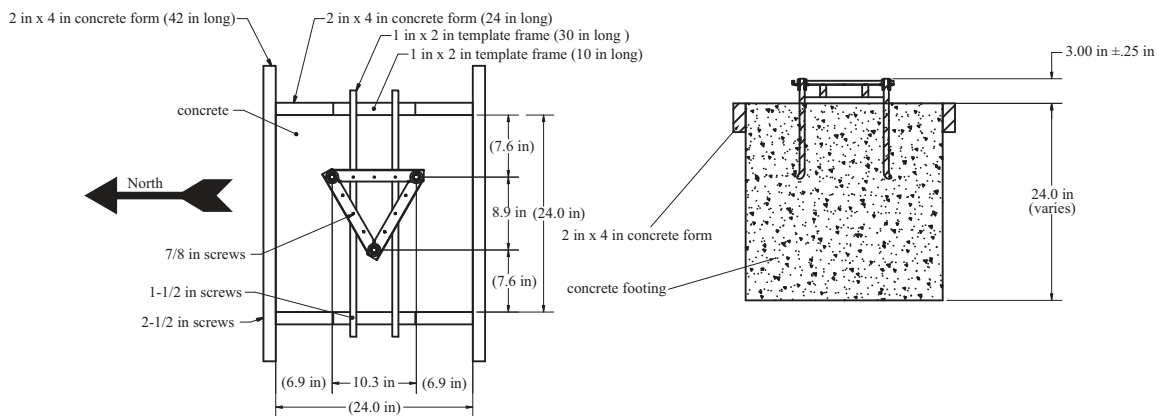

FIGURE 2-3. Positioning the j-bolt in concrete.
3. Construct a concrete form shown in FIGURE 2-3 out of 2 in x 4 in lumber 24 in square (inside dimensions). Construct the 1 in x 2 in template frame and set it aside. Center the form over the hole and drive a stake centered along the outside edge of each side. Level the form by driving nails through the stakes and into the form while holding the form level.
4. Position the j-bolt template as shown in FIGURE 2-3. The top of each bolt will be 3.00 in  $\pm$ 0.25 in above the level of the form. Level the tops of the j-bolts in all directions using a small level and secure the j-bolt template to the template frame with 7/8 in screws where holes in the template overlap the wooden frame.
5. Fill the hole and form with concrete. Screed the concrete level with the top of the form as shown in FIGURE 2-3. Smooth the concrete around the three j-bolts and allow the concrete to harden.